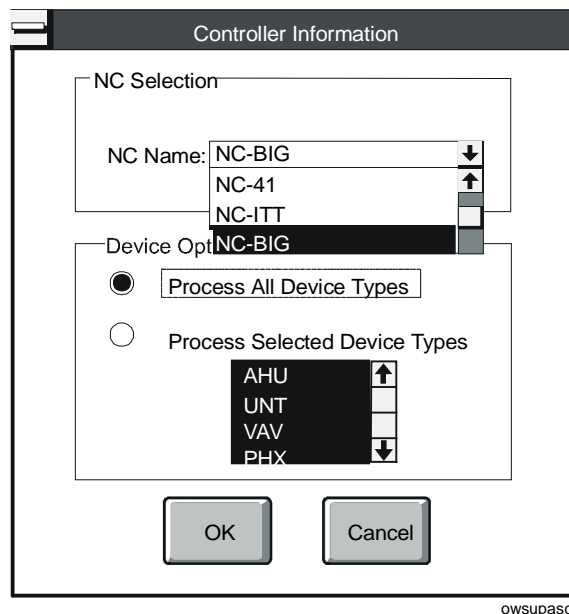

Figure 16-14: OWS - Controller Information Dialog Box
2. Select All Devices on the Selected NC. The Controller Information dialog box displays (Figure 16-14).